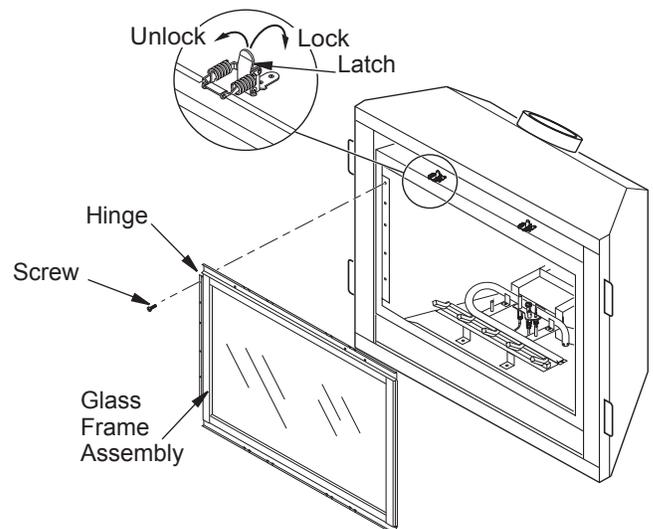

Figure 41 - Removing/Replacing Glass Door
2. Lift up on latches to unlock. There are two on top of firebox and two below firebox that hold glass door in place (see Figure 41).
3. While holding glass door to prevent it from falling and causing injury, remove the five screws from the hinge located on the left side of door frame assembly (see Figure 41).
5. Close glass door frame. Lock latches by placing the bar under the tab on door and pushing down and back on latch (see Figure 41).